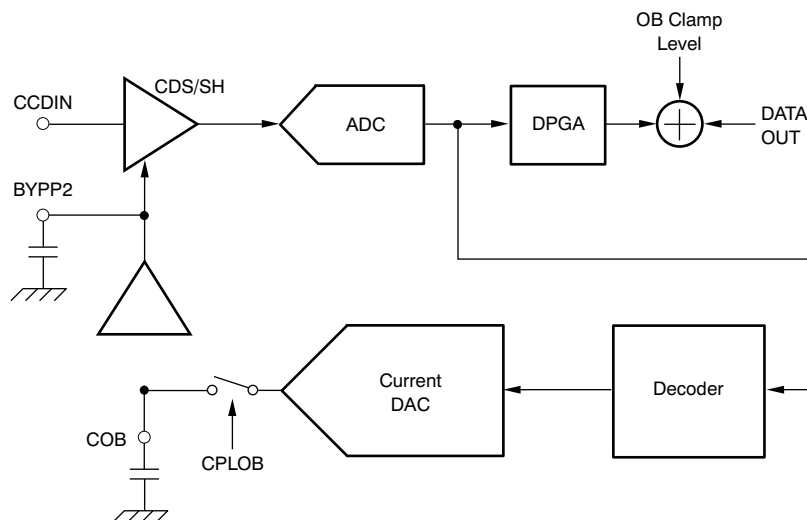

Figure 8. OB Loop and OB Level Clamp
The VSP5010 has a built-in self-calibration circuit (OB loop) that compensates the OB level by using optical black (OB) pixels output from the CCD image sensor. A block diagram of the OB loop and OB clamp circuit is shown in Figure 8.